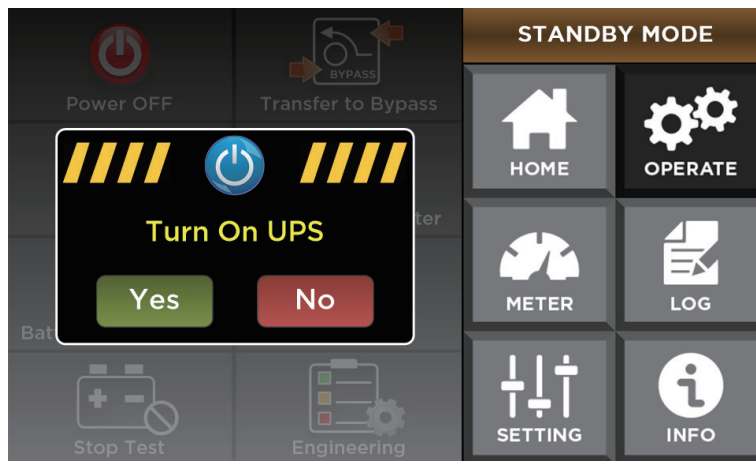

Fig.4-3 Interface of start-up operation
1. To Start the UPS, enter the “OPERATE” page and push the “Power ON” command as show in Fig.4-3. After receiving the command, the UPS will proceed start-up.
3. Follow the step 1 in section 4.1.2 (See Fig.4-3), the system will enter the start-up process. After about 30S, the system transfers to battery mode.